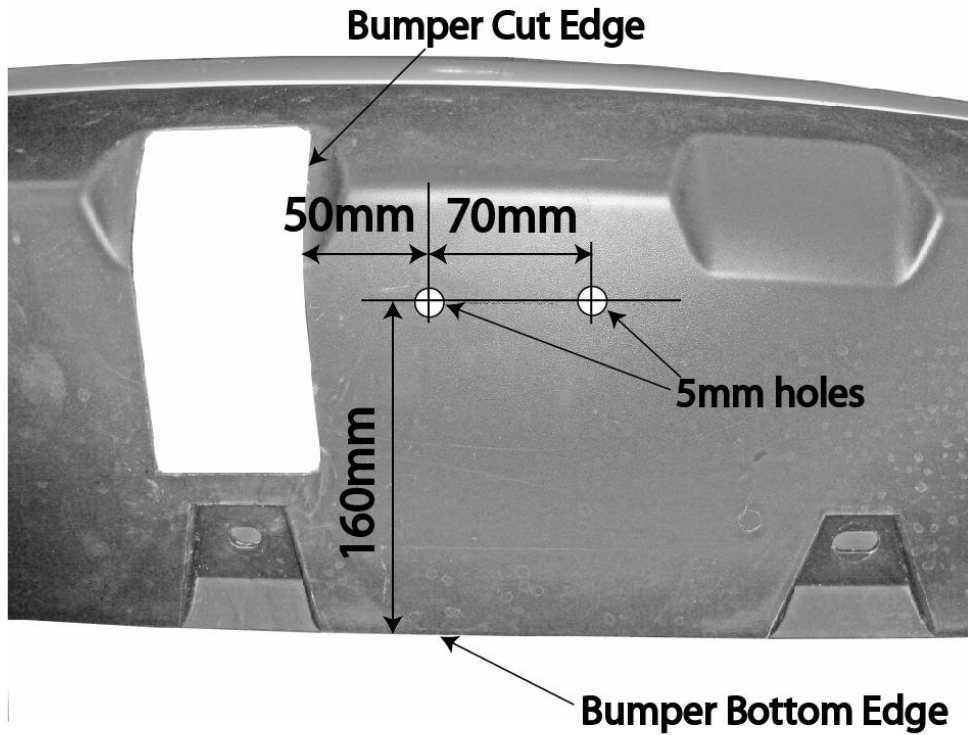

Figure 4 – Drill holes to fit plug bracket.
10. Drill the plug bracket holes, as illustrated in Figure 4.